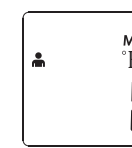

Figure 5
1. The Memory Mode can be accessed either in forehead mode or object mode: When the thermometer has been turned on and followed by Figure 2/4 or finished testing, press and hold the BUTTON for three seconds. The letter M will appear in the center right corner of the display. (See Figure 5)